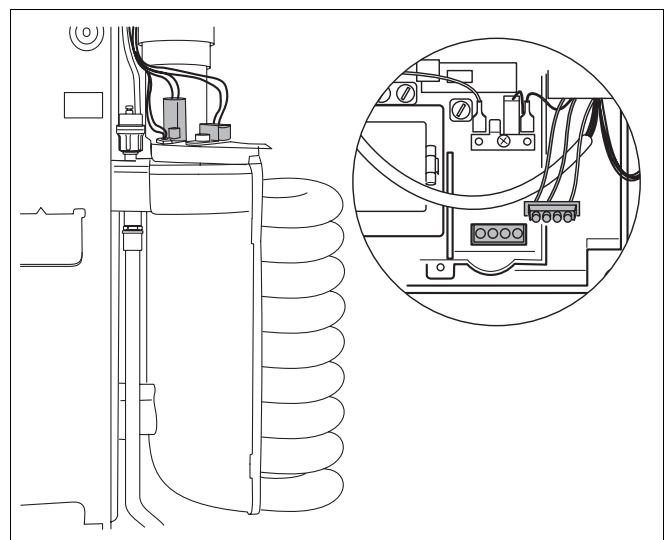

Fig. 75 Disconnect the plug-in cable from the UBA housing
- Unplug incandescent firing electrode connection cable from UBA housing (fig. 75).